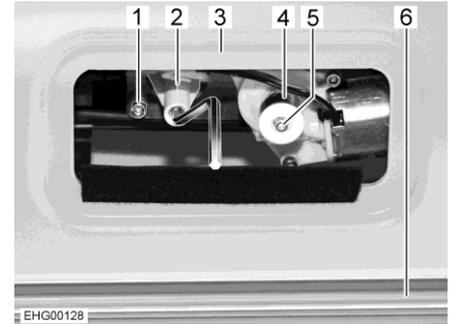

Fig. 36 Access to the motor
- Remove removable panel above the windscreen panelling (Fig. 36,3). The motor (Fig. 36,1) is accessible.
- Remove plastic sleeve (Fig. 36,4).
- Press and hold white securing button (Fig. 36,5).
- Position crank (Fig. 36,2) on crank socket.
- Move Roman shade (Fig. 36,6) upwards or downwards with the crank.
- If both holding bars have moved out of the visible range: pull securing button (Fig. 36,5) out again.